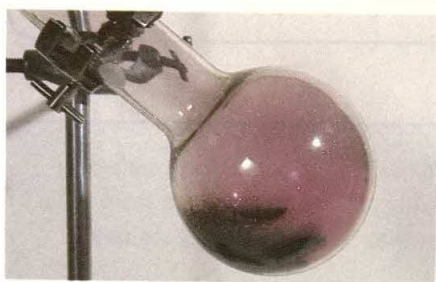

Figure 5.18
- Explain what happens to an iodine crystal when it is warmed gently. (See figure 5.18.)